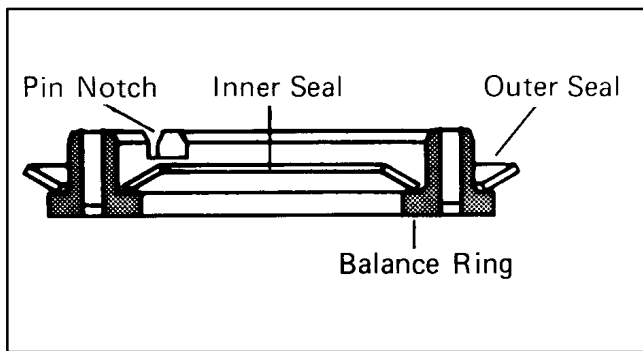

Figure 81
37. Apply petroleum jelly to inner and outer face seals. Install seals on balance ring as shown in Fig. 81.
IMPORTANT: Install face seals in the positions shown in Fig. 81. or the motor will not operate properly. Do not force or bend the face seals. Any damage to these seals will affect the operation of the motor.